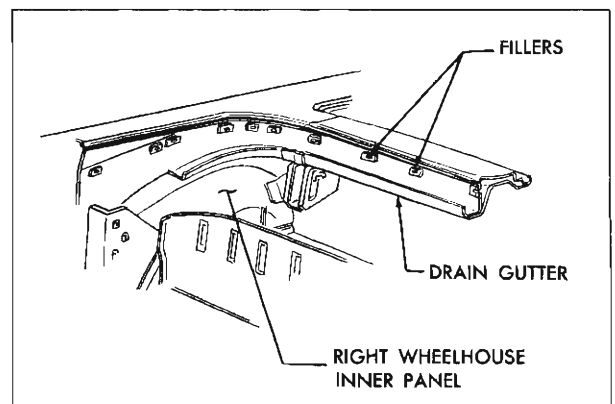

Fig. 21-43 Checking Trim Stick Fillers
14. Inspect rubber trim stick fillers cemented to body below pinchweld. Recement if necessary (Fig. 21-43).